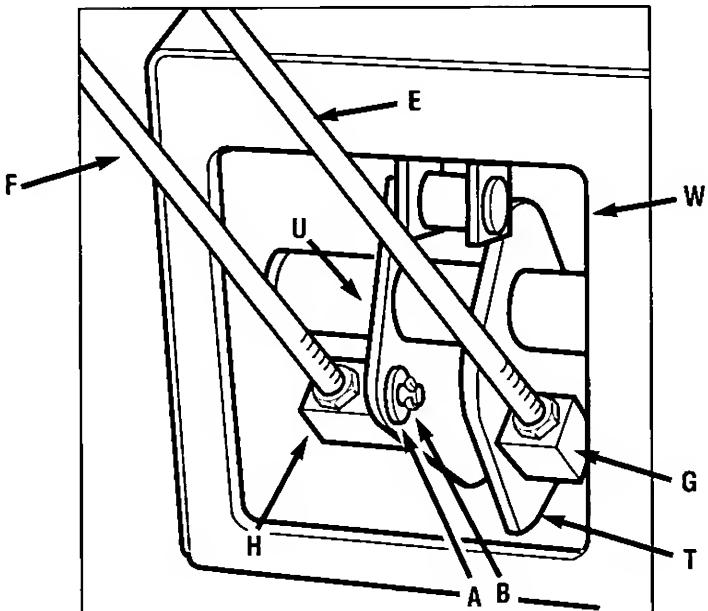
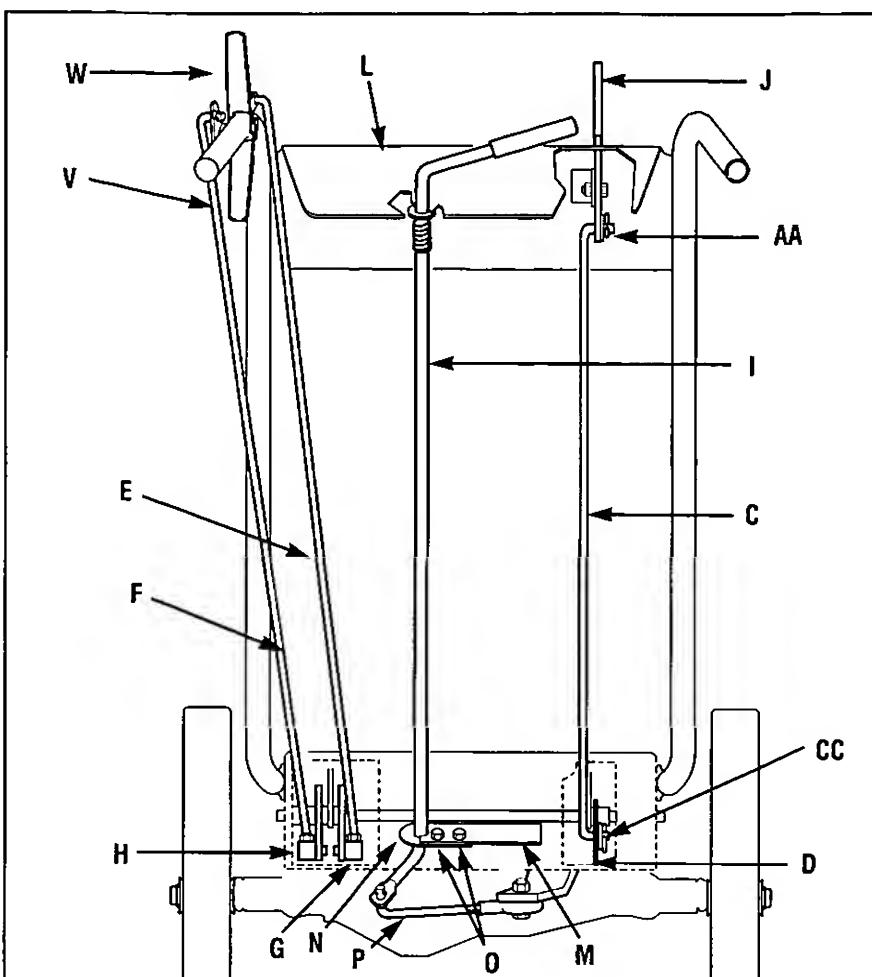
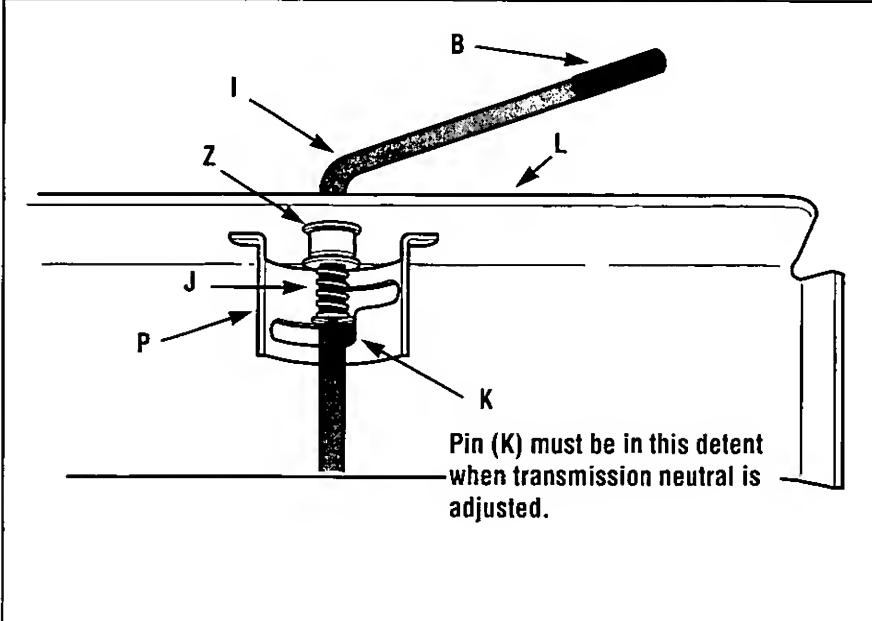
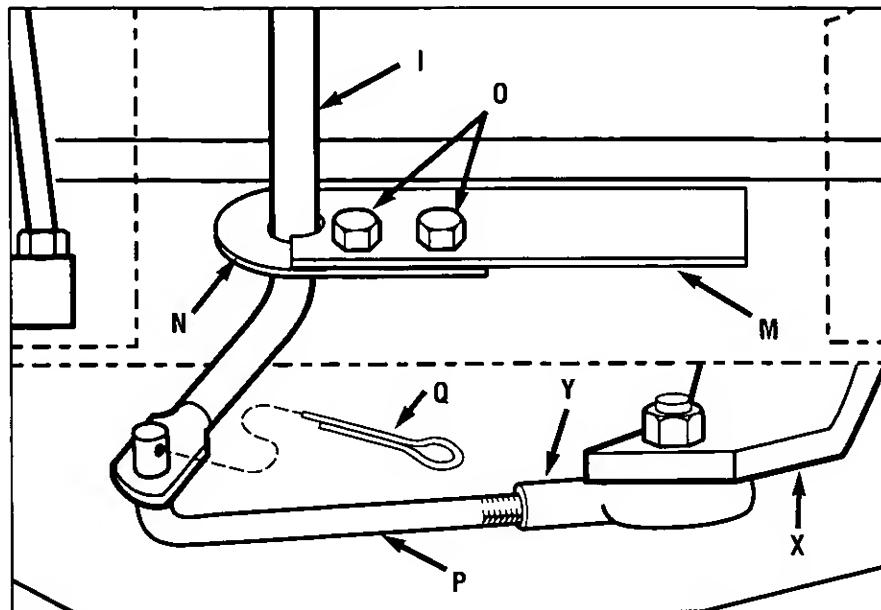

Figure 2-6: Left-hand control rods in detail.
Figure 2-7: Rear view of control rods.
Figure 2-8: Detail – Gear Select Lever in Neutral (N) position.
Figure 2-9: Detail – Transmission Neutral Adjustment.
1. Cut and remove any plastic tie(s) holding wheel drive rod (F, Figure 2-7) to left handlebar and blade drive rod (C, Figure 2-7) to right handlebar. Put rods aside.
1. Locate the wheel drive control rod (F, Figures 2-6 & 2-7) that you removed from the left handlebar in Step 2. This rod has a swivel block (H, Figure 2-6) on one end.
2. At left side of engine frame, insert swivel block (H, Figures 2-6 & 2-7) on wheel drive control rod into wheel drive control arm (U, Figure 2-6).
3. Add one 5/16" washer (A, Figure 2-6). Secure with cotter pin (B, Figure 2-6). Bend ends of cotter pin to secure the rod.
1. Locate control rod (E, Figures 2-6 & 2-7) attached at upper end to Operator Presence Control (W, Figure 2-7). Add one 5/16" washer and secure with cotter pin. Bend ends of cotter pin to secure.
2. At bottom of control rod, insert swivel block (G, Figures 2-6 & 2-7) into control arm (T, Figure 2-6).
1. Locate the blade drive control rod (C, Figure 2-7) that you removed in Step 2. Insert one end of control rod into blade drive bracket (D, Figure 2-7). Add one 5/16" washer and secure with cotter pin (CC). Bend ends of cotter pin to secure.
2. Insert upper end of rod into bottom end of Blade Drive Control lever (J). Add one 5/16" washer and secure with cotter pin (AA). Bend ends of cotter pin to secure.
1. Using the edge of a piece of flat wood (such as a ruler), remove the vinyl grip (B, Figure 2-8) from the gear select lever (I). Place the wood edge against the edge of the grip and slowly pull off the grip.
2. Insert nylon bushing (Z, Figure 2-8) up into console (L).
3. Slide spring and washers (J) down onto gear select lever.
4. Insert gear select lever (I) up through nylon bushing (Z) in handlebar console (L, Figure 2-8). Guide pin (K) on gear select lever into groove in shift quadrant (P).
5. Hold lower part of gear select lever (I) against bracket (M, Figure 2-9). Position retaining plate (N) from parts bag in place as shown in Figure 2-9 (plate below bracket). Secure plate with two 1/4"-20 x 1/2" long screws (O) and 1/4"-20 locknuts.
6. Slide grip (B, Figure 2-8) back onto upper end of gear select lever (I).
7. Rotate gear select lever (I, Figures 2-8 & 2-9) clockwise until spur (K - short rod) on gear select rod stops in the neutral position detent on the shift pattern quadrant (Figure 2-8).
8. At bottom of control rod, thread shift link (P, Figure 2-9) partially into ball-joint (Y).
9. Move shift arm (X, Figure 2-9) from side to side as necessary into each transmission gear detent until transmission is in neutral.
NOTE: Moving shift arm (X) all the way to the left, and then one notch back to the right, should put transmission into neutral. When transmission is in neutral, unit will move freely when pushed while holding the Operator Presence Control lever (W, Figure 2-7) down. If transmission is NOT in neutral, there will be a slight drag on the wheels when pushing unit.
10. When shift arm (X) is in neutral position, rotate shift link (P) toward end of gear select lever rod (I). Adjust length of shift link (P) as necessary to fit into hole in bottom of gear select lever (I).
NOTE: Pin (K) on Gear Select Lever (I) must be held in the neutral position detent on the shift quadrant (see Figure 2-8) while shift link (P, Figure 2-9) is adjusted.
11. Insert hooked end of shift link (P, Figure 2-9) into hole in bottom end of gear select lever (I) and secure with cotter pin (Q). Bend ends of cotter pin. **NOTE:** It may be necessary to lift gear select lever (I) to install shift link (P).
12. Remove unit from shipping crate. To remove, hold down Operator Presence Control lever (W, Figure 2-7) which releases the wheel brake.
13. Hold down Operator Presence Control lever (W, Figure 2-7) and push unit forward and backward. The wheels should move freely. If not, adjust length of shift link (P, Figure 2-9) as necessary.
14. Put the Gear Select Lever in neutral (N), release all of the control levers, and try to push the unit forward and backward. The wheels should not turn. If they do turn, an adjustment is necessary. **DO NOT OPERATE THE UNIT UNTIL THE WHEEL BRAKE MECHANISM HAS BEEN ADJUSTED AND IS WORKING PROPERLY.** See "Wheel Brake Adjustment" in Section 5 "Maintenance."
- Move mower to a level area. Press and hold down Operator Presence Control lever (W, Figure 2-7) to move mower.